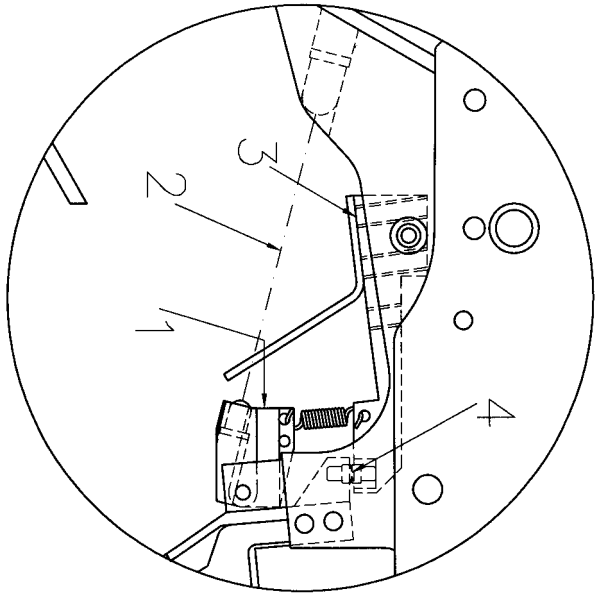

FIG. 3
2.3 Close the breech (2) fully down using the cocking lever (1) paying attention that your trigger finger is out of the optical sensor line (*Fig. 3 (2)*), otherwise the shot may be fired accidentally caused by the vibration during the loading procedure, especially if the trigger adjustment is set too fine. As a precaution, we advise that you turn-off the electronic before loading the pistol.
2.4 To fire the shot, pull the trigger. Always pay attention that your finger interrupts the optical sensor (*Fig. 3 (2)*).
3. Trigger adjustment (*Fig. 3*)
5.3 Dust may accumulate around the trigger and the optical sensors (*Fig. 3 (4) (2)*). This can be easily removed using an air cleaner on a regular basis.